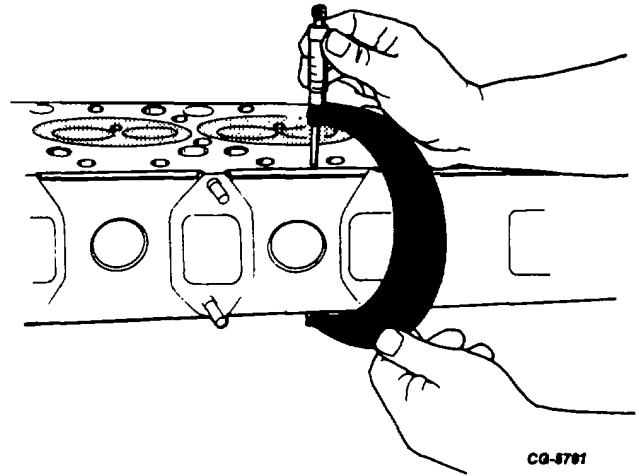

Figure 19. - Measuring Cylinder Head
- a. With a micrometer, measure distance from upper deck (valve cover seating surface) to lower deck (head gasket contact surface). As shown in Fig. 19.